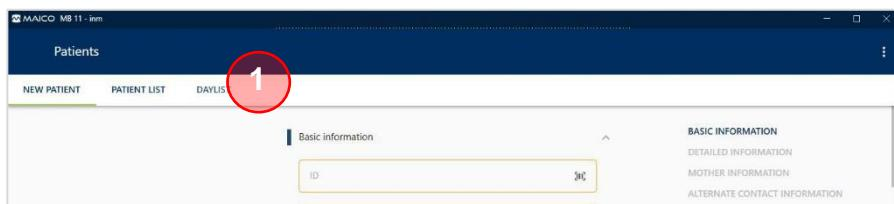

Figure 28
When starting the MB 11, the input mask for new patients opens (Figure 28). Existing patients can be selected from the **PATIENT LIST** and the **DAYLIST** (1).